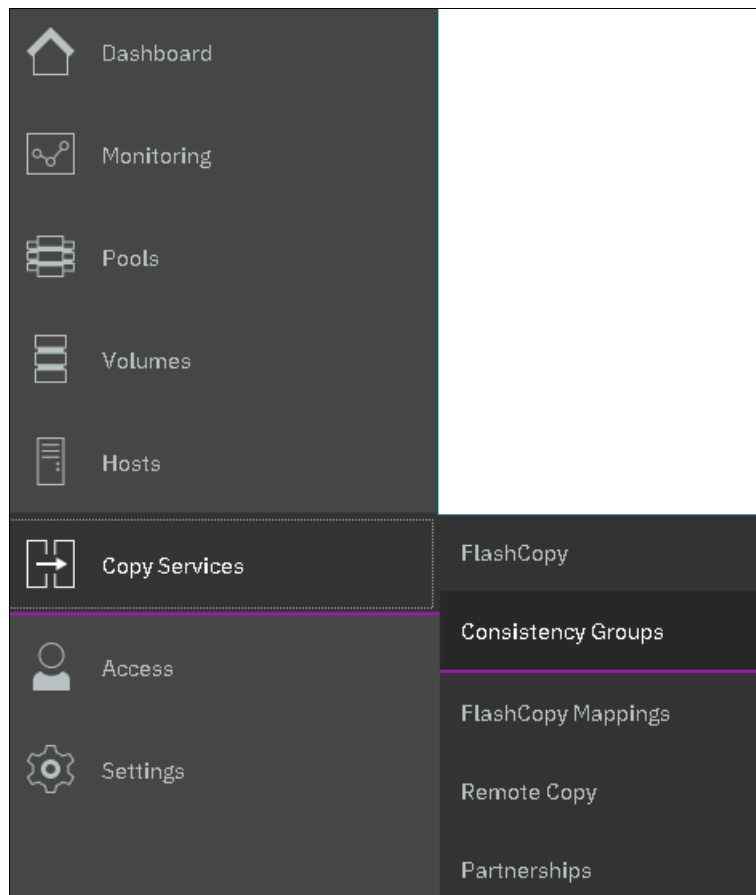

Figure 10-33 FlashCopy Consistency Group
1. From the main panel, click **Copy Services** → **Consistency Group**. The Consistency Group panel is shown in Figure 10-33.